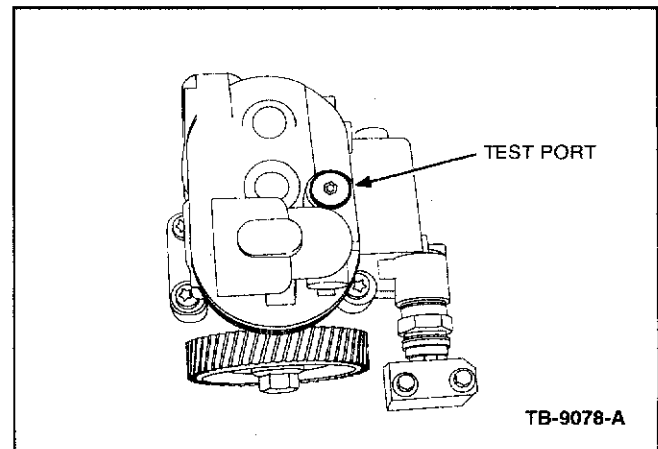

Figure 3 - Article 08-9-9
2. Remove M 12 plug from the top of the high-pressure oil pump. (Figure 3)
3. Install test adapter 303-765 in the top of the high-pressure oil pump. Attach shop air hose to the test adapter. (Figure 3)
5. Using IDS command IPR open for two (2) minutes to clear the oil from the high pressure oil system. Slowly command the IPR closed and listen for an air noise change indicating that the IPR is moving.
6. Remove and discard M 12 plug from the top of the high-pressure oil pump. (Figure 3)